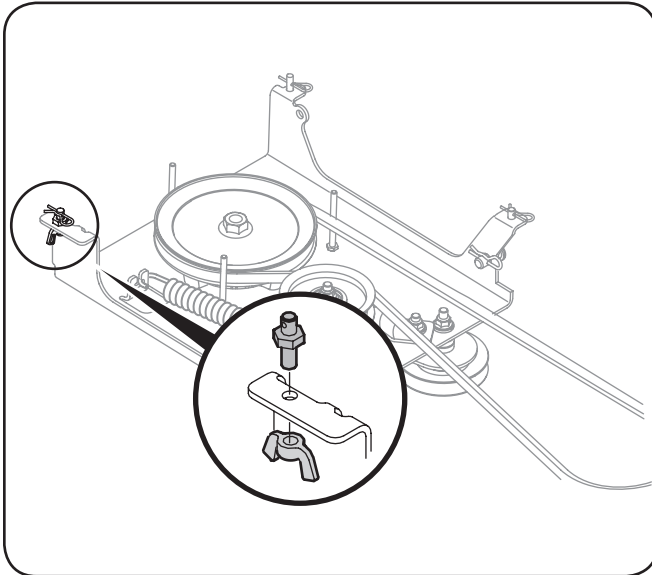

Figure 3-3
1. Remove the pin and wing nut at the right rear of the undercarriage assembly. See Figure 3-3.